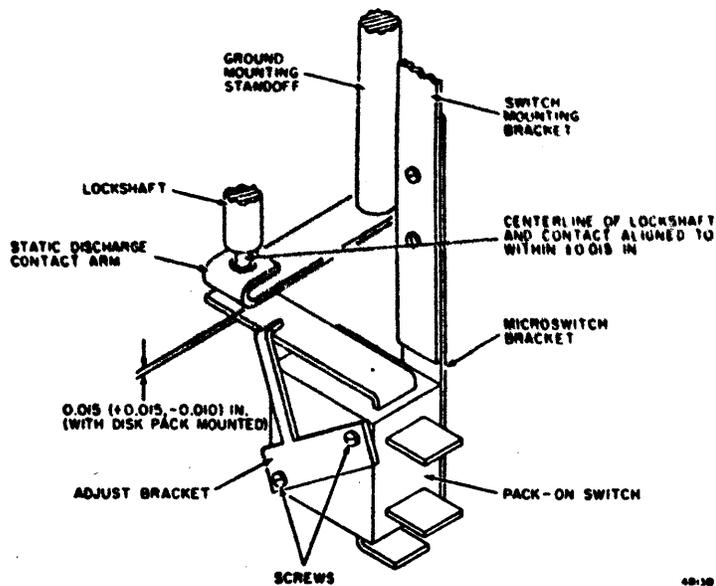

Figure 6-2. Pack-On Switch Adjustment
5. Proceed to step 6 for Pack-On Switch Replacement or step 7 for Statis Discharge Contact Replacement (Figure 6-2).
11. Using a feeler gage, check that the gap between the static discharge contact arm and the Pack-On switch actuator meets the requirement of Figure 6-2. Slide the microswitch bracket vertically to attain the correct dimension. Tighten the screws.
~~12. Use a push-pull gage (12210797) to check that the force required to separate the contacts is as shown on Figure 6-2. If the separation force exceeds the maximum allowable, add shims as required between the ground mounting standoff and the contact arm. Shim part numbers are available in Illustrated Parts List.~~
mounting bracket and slide the lower bracket vertically until the dimension is correct. Tighten the screws. Make certain that the static discharge contact is aligned to the lockshaft according to Figure 6-2. The contacts will be damaged during operation if not properly aligned.
~~5. Refer to Figure 6-2 and use a push-pull gage (12010707) to check that the force required to separate the contacts is as shown.~~